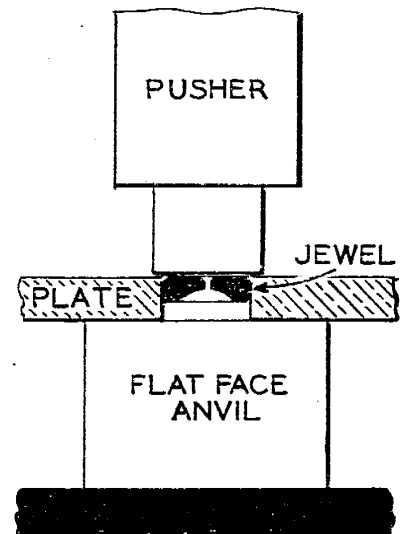

Fig. 14-14
14. Press on lever gently until the face of the pusher comes in contact with the jewel, increasing the pressure slowly until the jewel has been forced into the hole. The pusher should now be flush with the plate and the jewel securely in place, figure 14-14. Release lever and remove plate.